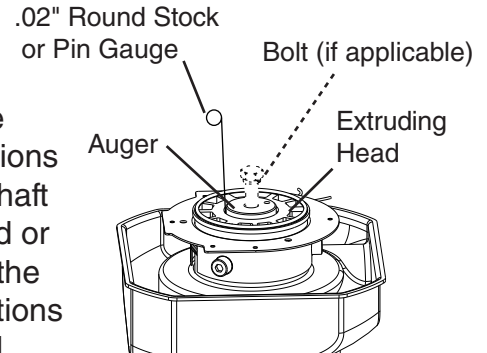

Fig. 13
- 5) Replace the bolt in the auger (if applicable). See Fig. 13. Move the auger towards you and then try to insert a .02" round stock or pin gauge in between the back side of the auger shaft and the bearing surface. Check several locations around the auger shaft. If the gauge goes between the shaft and the bearing at any point or if the bearing is scratched or cracked, both the top bearing in the extruding head and the lower bearing in the housing should be replaced. Instructions for removing the extruding head and housing are located later in this procedure.